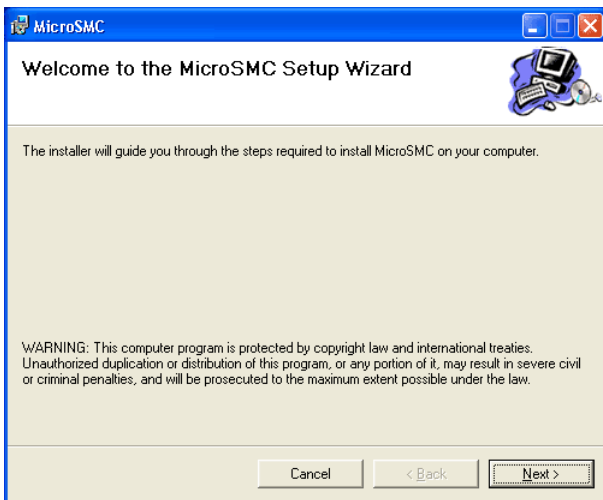

Figure 46. MicroSMC 1st installation screen
- Open MicroSMC folder on 8SMC1-USBhF installation disk. And click on setup.exe file. Next screen will be shown (see Figure 46). Then press "Next>" button.